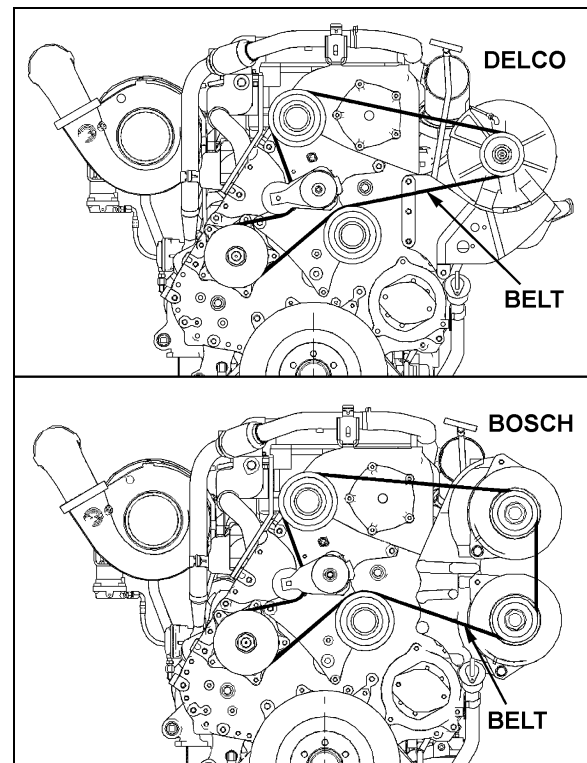

FIGURE 28: ALTERNATOR DRIVE BELT
1. Insert a 3/4 inch socket drive into one of the tensioning arm opening (Figure 28).